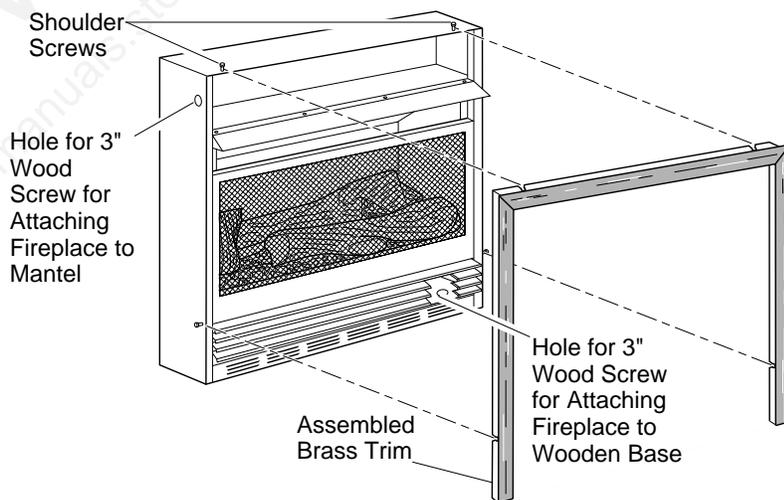

Figure 13 - Attaching Brass Trim to Fireplace
5. Firmly snap brass trim kit on shoulder screws. Shoulder screws are located on fireplace cabinet (see Figure 13).
7. Use two 3" wood screws provided and attach fireplace base to wooden base (see Figure 13).
14. Place brass trim kit on the shoulder screws located on the side and top of the fireplace. Firmly snap the brass trim over the shoulder screws on fireplace (see Figure 13).
15. Adjust assembly to remove any gaps. Attach remaining two 3" wood screws from hardware pack through openings inside of fireplace sides into the mantel. The openings are located at top behind the area for the louvers (see Figure 13).